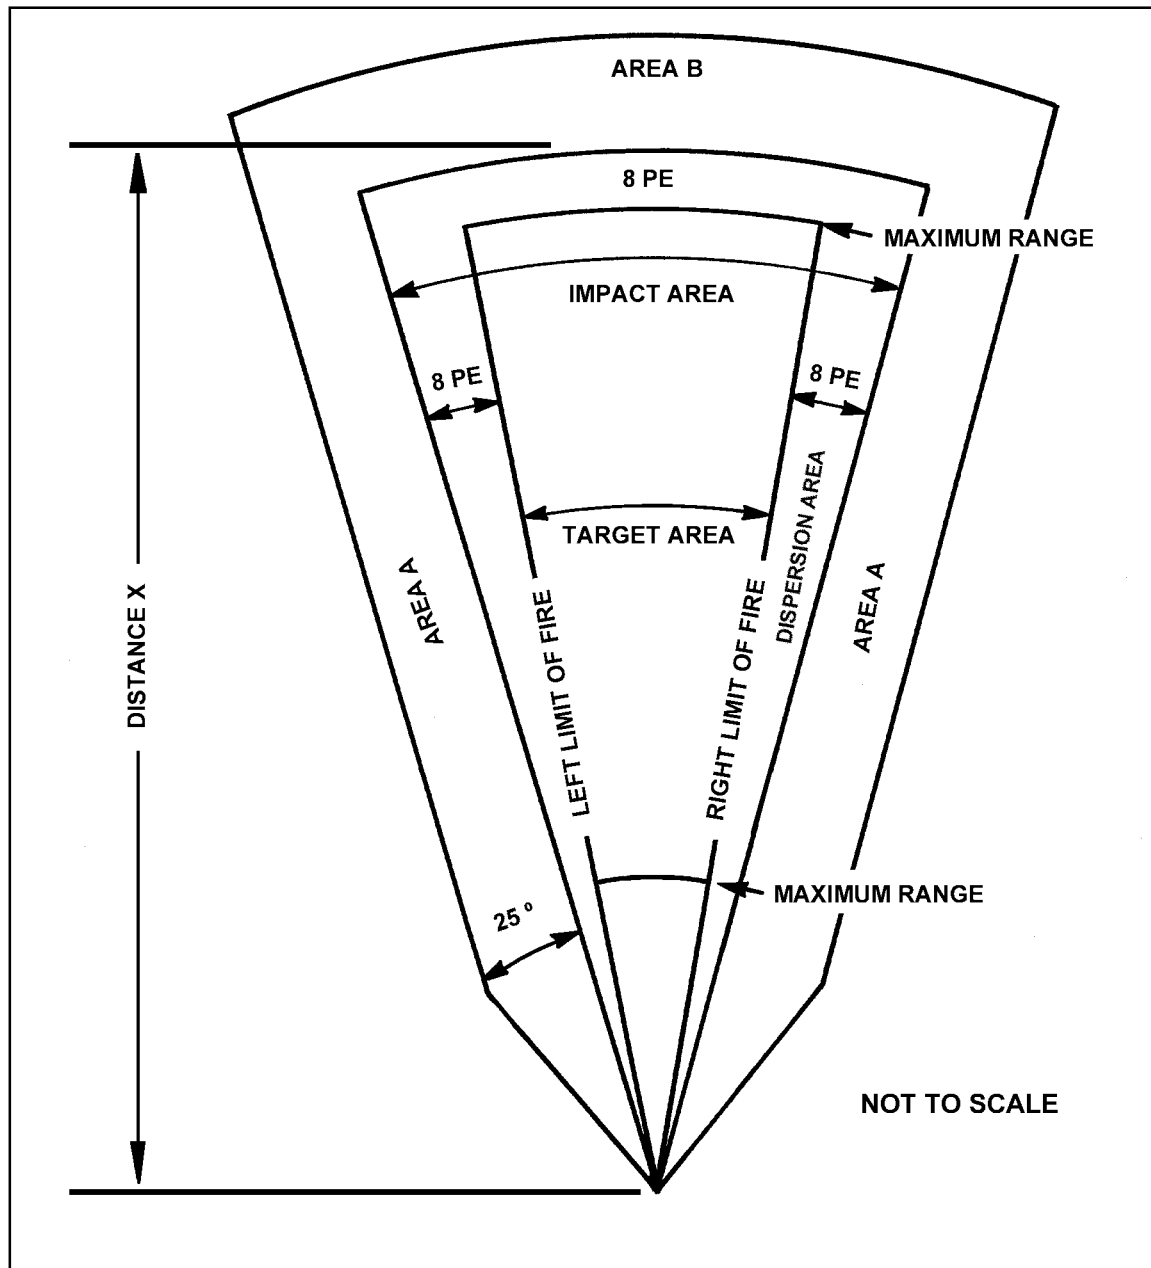

Figure B-1. Mortar surface danger zone.
(1) Secondary danger area A parallels the impact area laterally and is provided to contain fragments from rounds exploding on the right or left edges of the impact area (Figure B-1). Depending on the mortar being fired, secondary danger area A varies from 250 to 400 meters.
(2) Secondary danger area B is on the downrange side of the impact area and area A. It contains fragments from rounds exploding on the far edge of the impact area. Depending on the mortar being fired, secondary danger area B varies from 300 to 500 meters (Figure B-1).